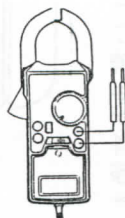

Fig. 3
- 1) Insert the plugs of the test leads into "Ω" terminals. (See Fig. 3)